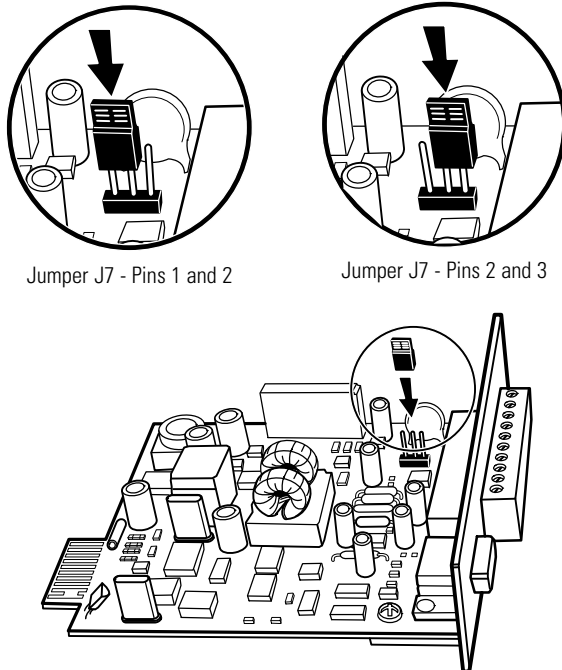

Figure 18. Setting the CAN Bridge Card Jumper J7 (Side View)
3. Set the jumper pins on the Powerware Hot Sync CAN Bridge Card according to the parallel configuration (see Figure 18):